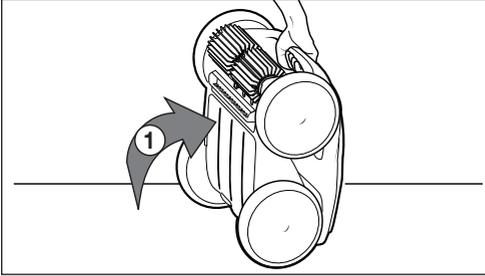

Figure 18. Cleaner in Upright Position
1. Lift the cleaner to a vertical position so that the handle is up. See Figure 18.